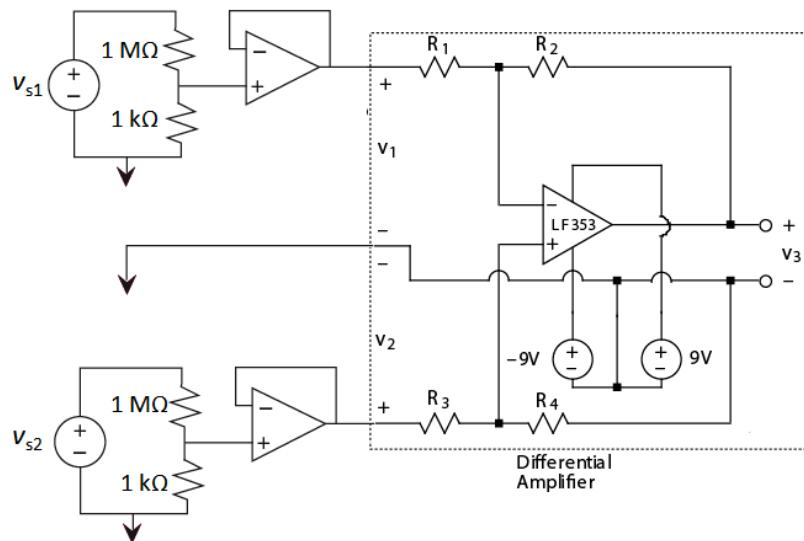

Figure 15. Testing differential amplifier using voltage dividers. (Arrow represents reference.)
3) Measure the differential-amplifier output voltage for several different input voltages for input 1. Then repeat the process for input 2. Fill out Tables IV and V in your lab notebook. Because the circuit has a high gain, you will test the circuit with small input voltages. Fig. 15 shows how voltage dividers like the simulated electrodes used earlier could be used to create small input voltages from power supply voltages of several volts. If enough power supplies were available, it would be possible to use the circuit shown in Fig. 15 to test both inputs at once. Since only one extra supply, (the 6V supply), is available, however, you will test your circuit using one simulated electrode driving only one pre-amp input at a time. To do so, connect the + wire for simulated output  $E_2$  to Input 1 and later to Input 2. The other pre-amp input will be left unconnected, which is effectively like connecting that input to reference. As when testing simulated electrodes earlier, use the 6V power supply to drive the input of the simulated electrode voltage divider. Note that  $E_2$ ,  $v_1$ , and  $v_2$  will be very small but may be measured with the voltmeters in the lab. You should find that  $v_3$  is several hundred times larger than  $v_1$  and  $v_2$ . Also, when using input 1,  $v_2$  should be relatively constant, and vice versa.